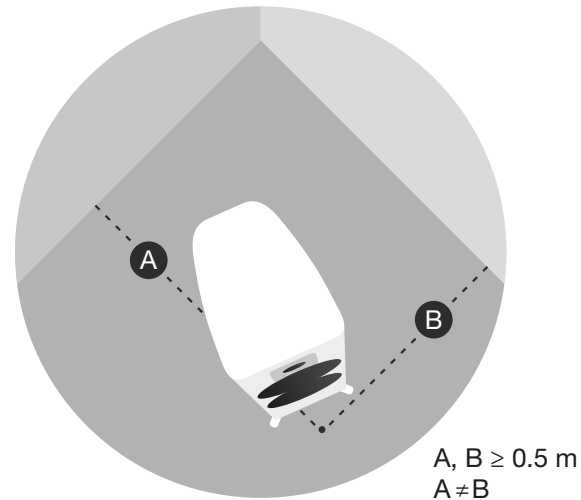

Fig. 4 Distance to walls.
- ▶ To reduce possible influences from the back and sidewalls, the distance to these boundaries should ideally not be less than 0.5 meter (see Fig. 4).